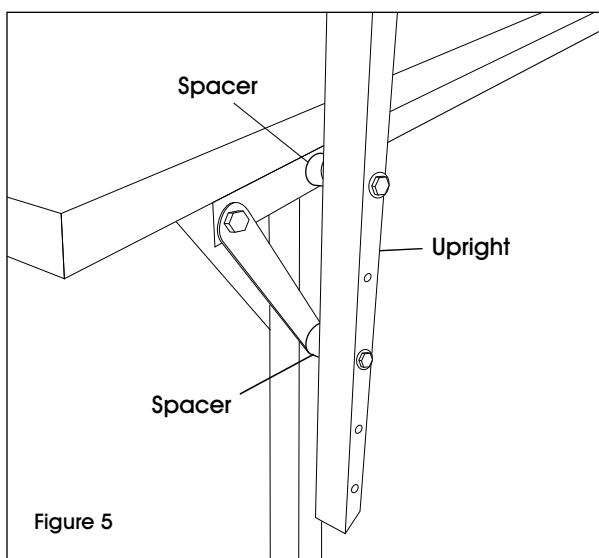

Figure 5
1. Attach the right and left shelf uprights by first removing the 4" bolts from back leg assemblies. Add spacers in between the leg assemblies and shelf uprights, and finally re-insert bolts through the uprights, spacers and leg assemblies. (See Figure 5) The shelving can be positioned at one of the three heights by utilizing the first and third, second and fourth, or third and fifth drilled holes on the shelf upright.